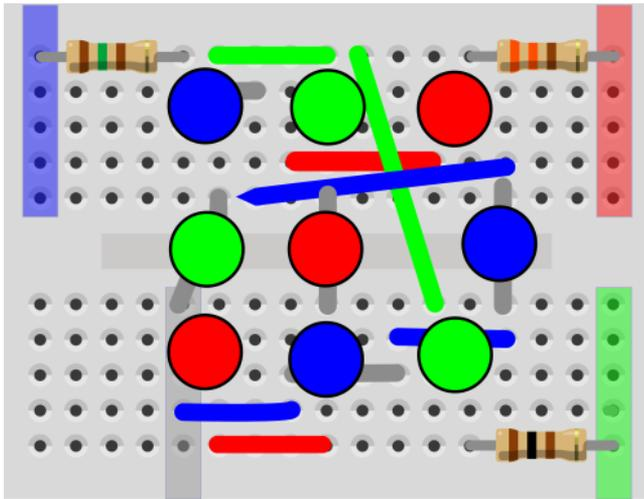

Figure 5-23. *Plug in male jump leads*
4. Plug the male jump leads into each of the color columns (Figure 5-23).